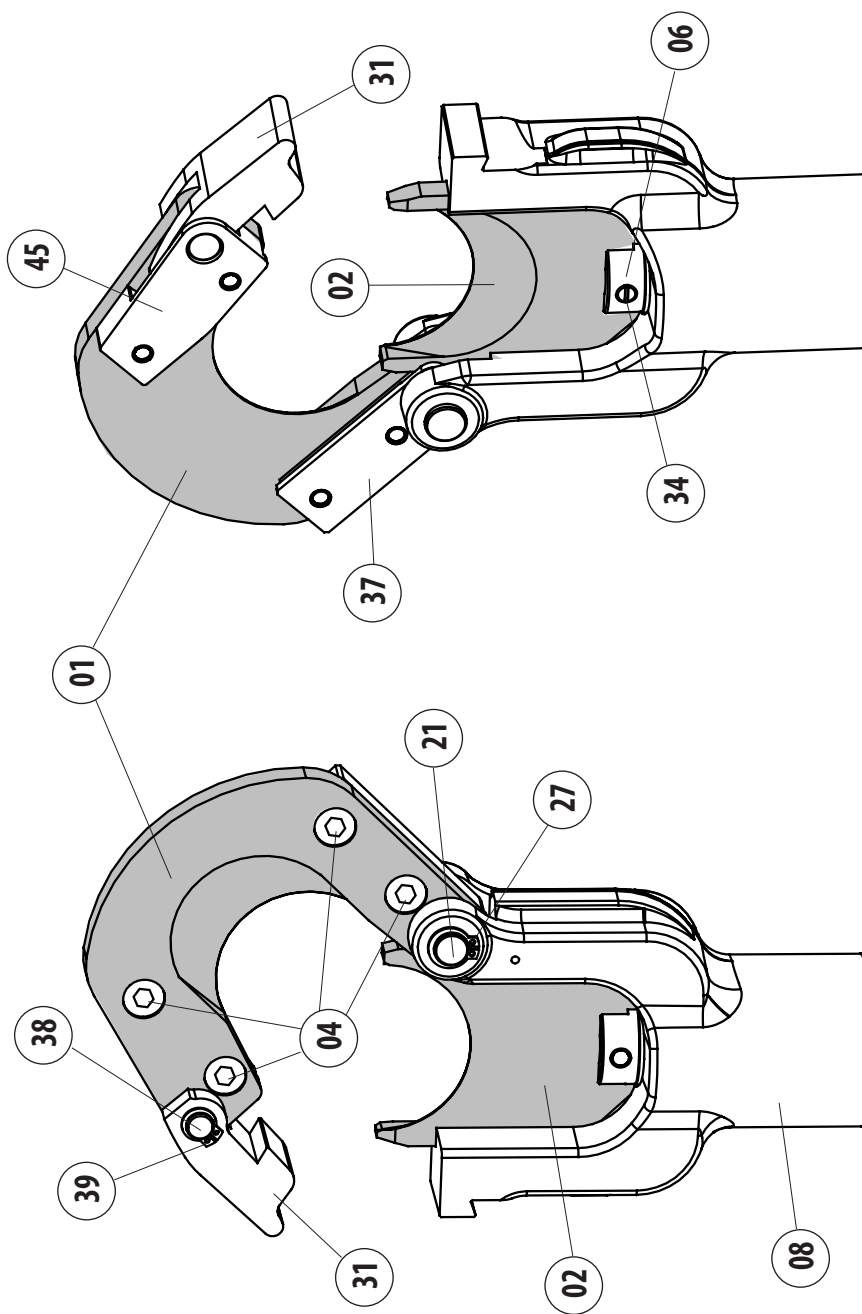

FIG. 2
5. CAMBIO DELLE LAME (Rif. a Fig. 2)